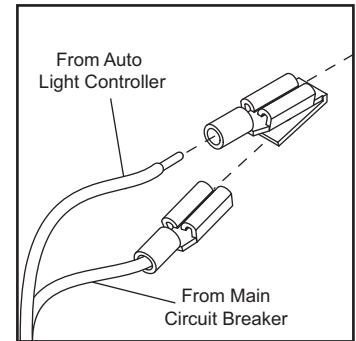

FIGURE 8
- a. **For units with spade terminals:** Remove the plastic cap from the end of the **red wire** from the auto light controller and crimp the included piggyback connector to the stripped end. Connect the red wire from the top of the main breaker onto the piggyback connector, then connect back to the main breaker. SEE FIGURE 8.